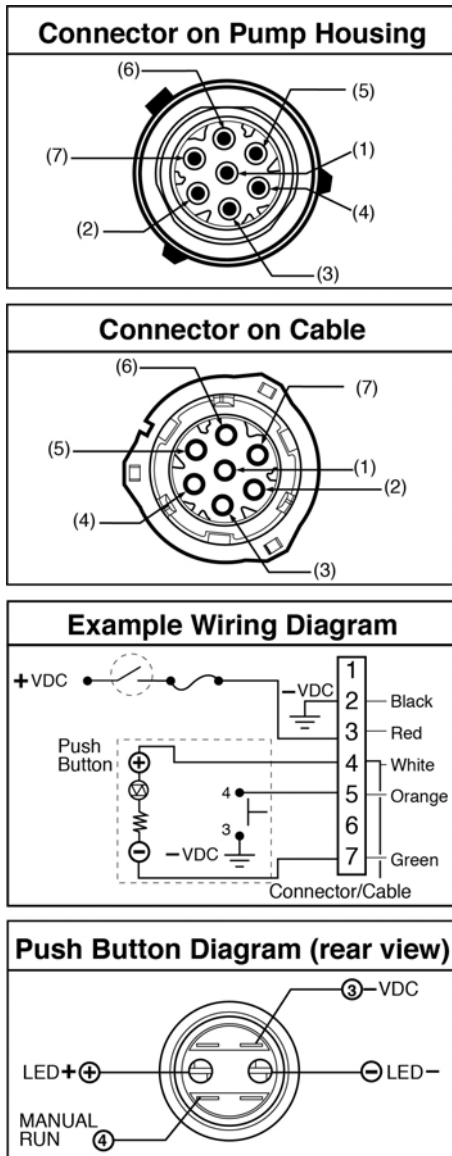

FIG. 17
5. Clean the an area close to the push button for mounting the label (55) inside cab. Adhere label to mounting surface.
6. Connect the wiring connector (52) to the push button and the pump. See Pin and Related Wire Color Table (below) and Wiring information shown in FIG. 17, page 17.
Pin and Related Wire Color (FIG. 17)